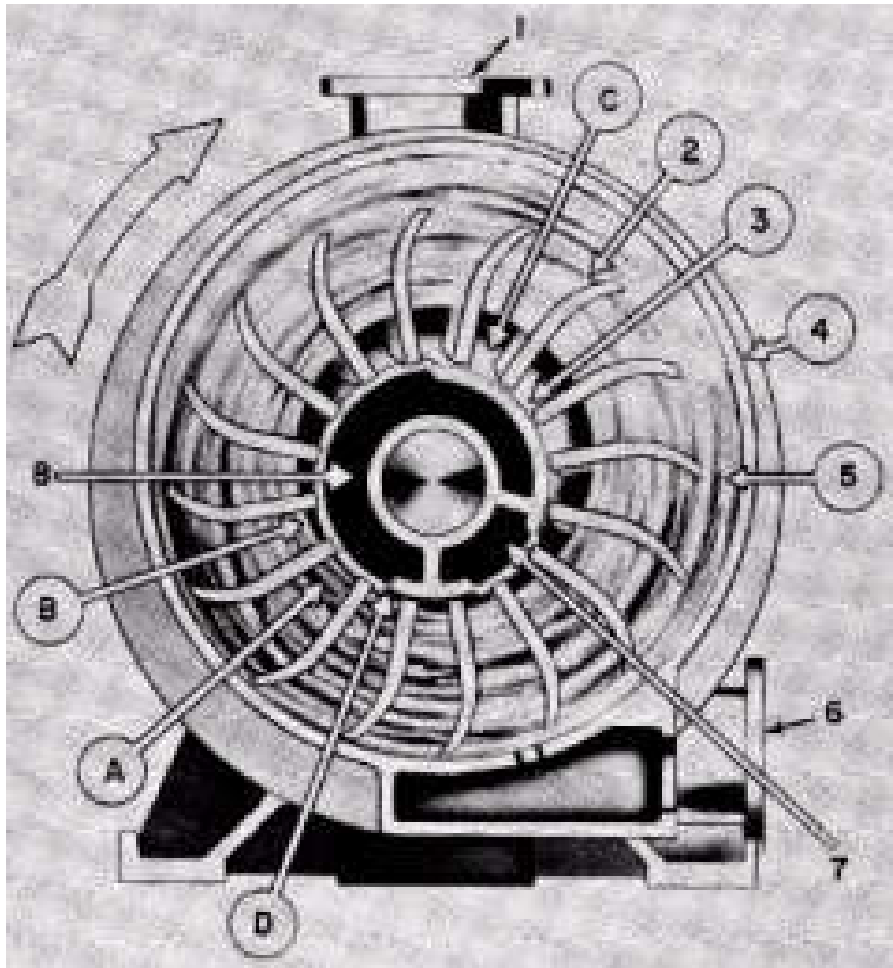

Fig.1 CL vacuum pump operating principle
As shown in fig.1, the rotor (2) is rotating in the casing (4) without metal contact, and the liquid piston (5) (usually water) is surrounded. The rotor (2) is made of a conical casting with hollow center and several blades surrounded. The shaft passed through the rotor hub, blades are confined in both ends into several chambers, and the edges of blades blend along the rotating direction of the rotor. In point A, the rotor cavity chamber is filled with water, which is followed to rotate along the casing internal surface. Due to centrifugal force, water is thrown to the pump casing till point C, when the chamber is empty.